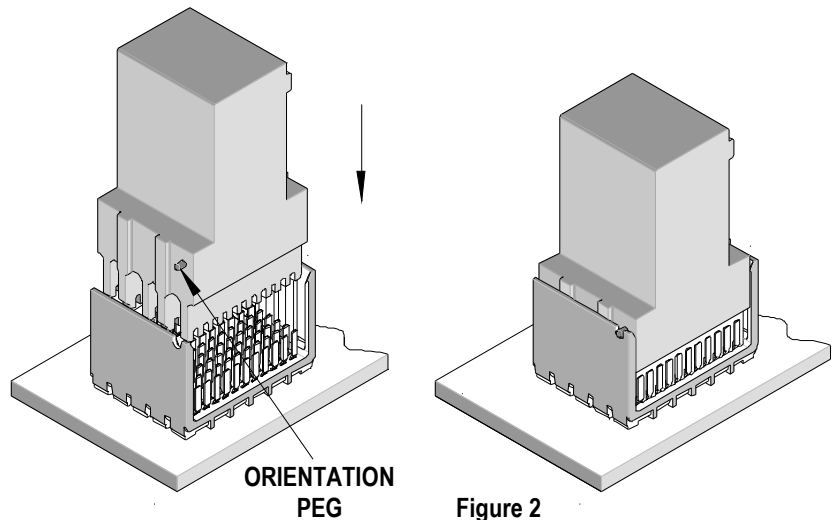

Figure 2
- Insert the application tool into the header assembly with the orientation peg on the tool entering the #1 circuit notch at the top of the connector housing. See Figure 2.